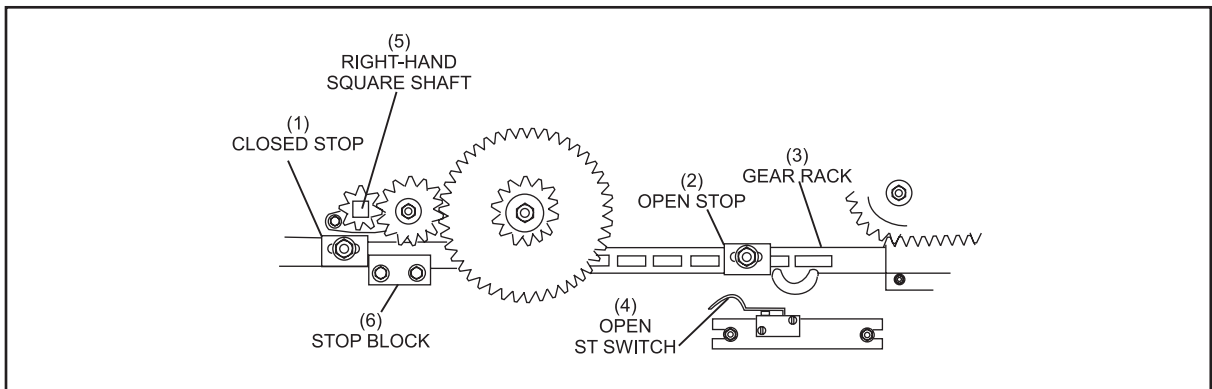

Figure 8-6. Spotting Tongs Closed
3. Turn the spotting tong square shaft until the spotting tongs are completely closed. The "ST" switch should be open and the closed stop should be against the stop block. Refer to *Figure 8-6*.